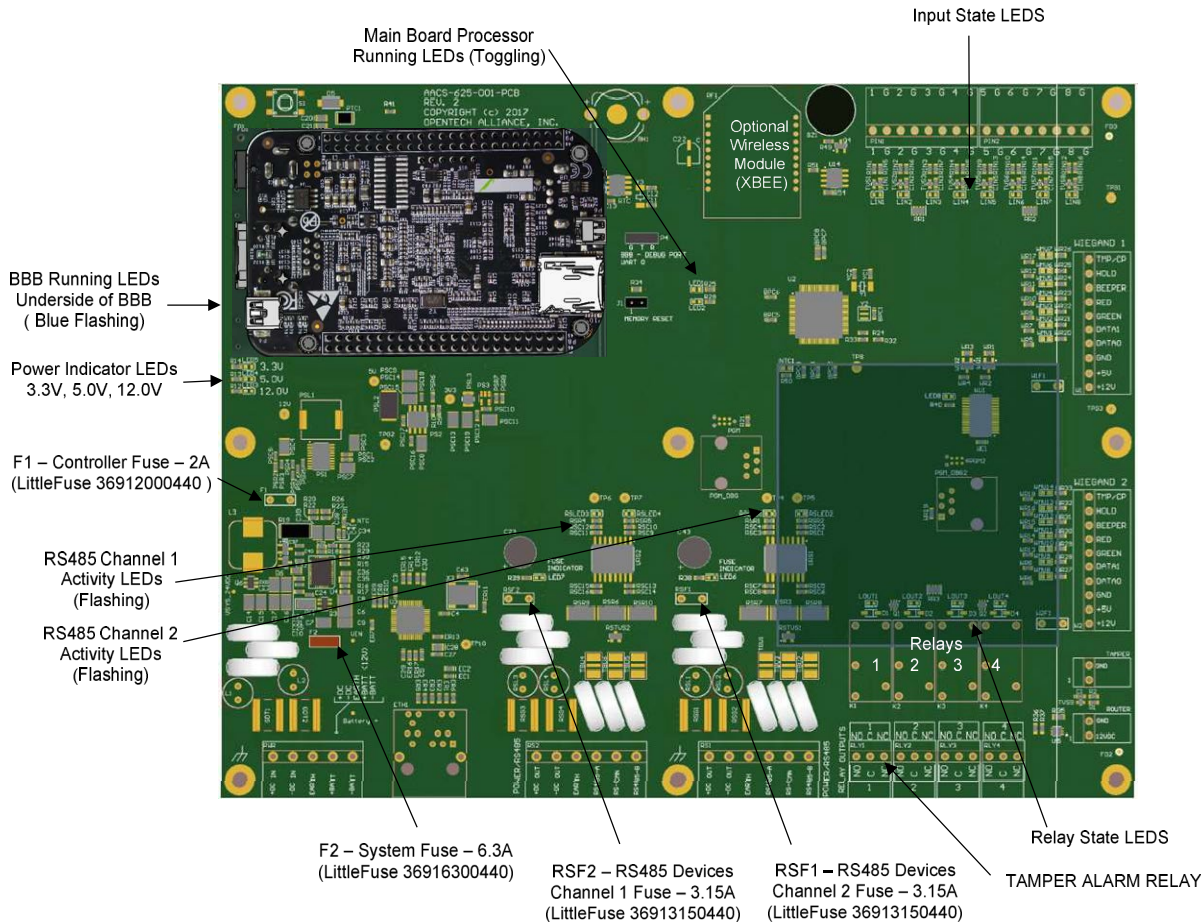
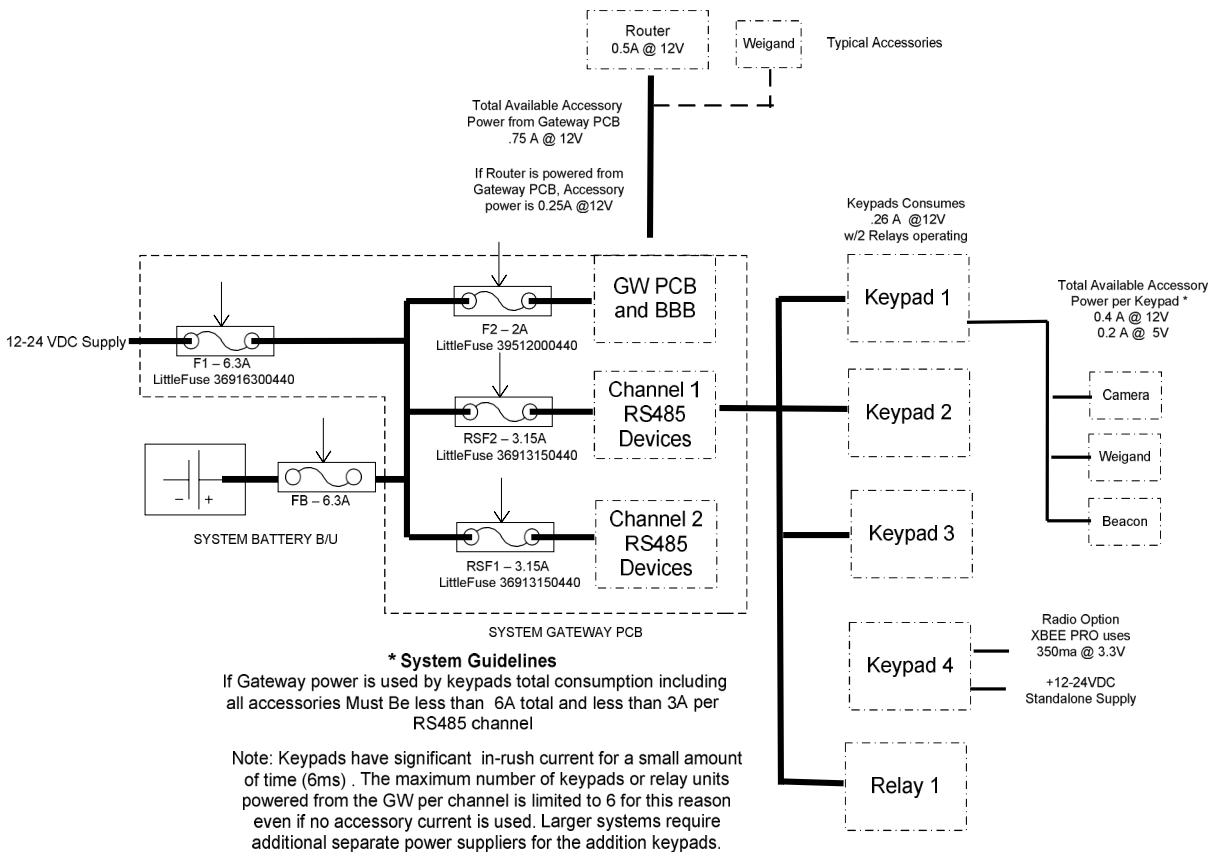

Figure 7 –
Figure 8 – Fuse to System Size Relationship Diagram
**Power Distribution Calculations and Fuses:** The main PCB carries 4 important fuses. These are identified on the diagram above (figure 7) along with replacement part numbers. The diagram below (figure 8) shows how these fuses are arranged.